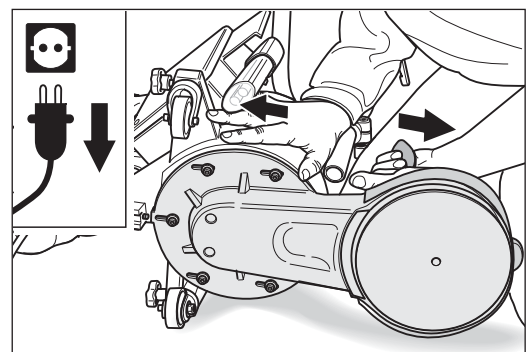

Fig. 58 Use the handle to pull the attachment forward until you feel the belt resistance.
- 6 Push the attachment all the way back. Use the machine handle to pull the attachment forward again until you feel the resistance caused by the V-belt (Fig. 58). To prevent damage to the floor, make sure that the attachment does not touch the floor!